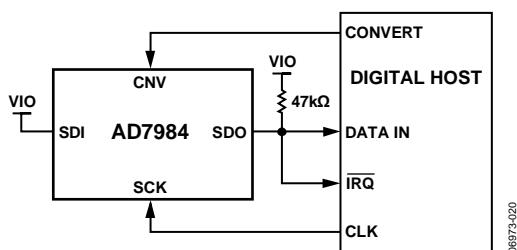
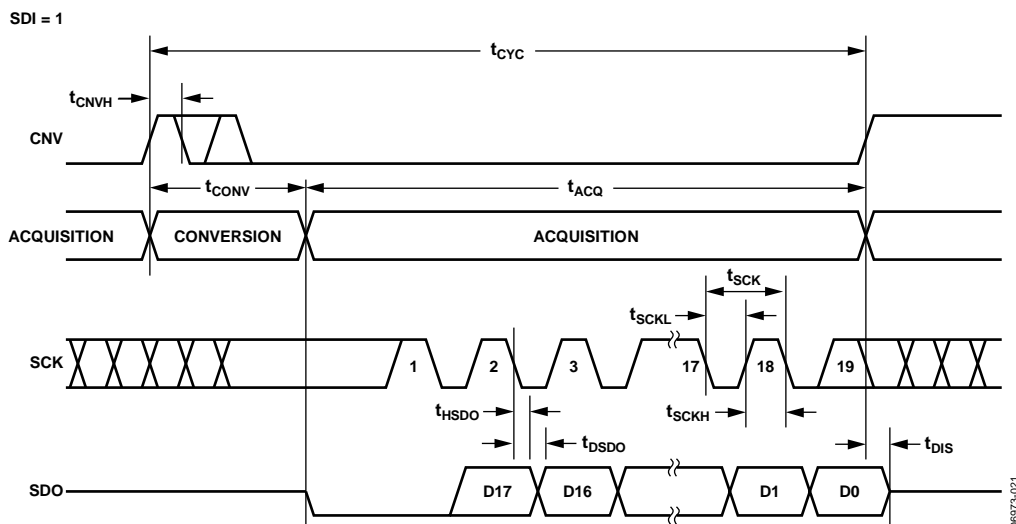

Figure 30. $\overline{\text{CS}}$ Mode, 3-Wire with Busy Indicator Connection Diagram (SDI High)
Figure 31. $\overline{\text{CS}}$ Mode, 3-Wire with Busy Indicator Serial Interface Timing (SDI High)
- In $\overline{\text{CS}}$ mode if CNV or SDI is low when the ADC conversion ends (see Figure 31 and Figure 35).
The connection diagram is shown in Figure 30, and the corresponding timing is given in Figure 31.